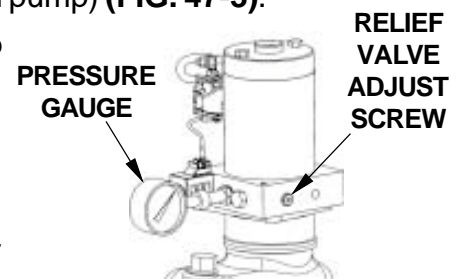

FIG. 47-2
9. With Platform on the ground, remove the pressure hose and fitting from Pump and replace it with a 0-3000 PSI Pressure Gauge. Hold the Control Switch in the "RAISE" position. Adjust the Relief Valve on the side of the Pump until the gauge shows 2800 to 3000 PSI (**FIG. 47-2**). Remove gauge and reinstall pressure hose.